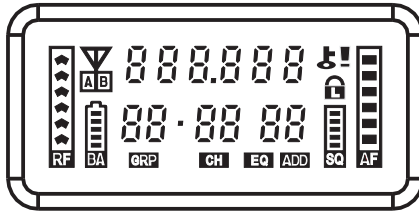

Fig. 12
2. Lightening VFD Screen. Fig. 12: